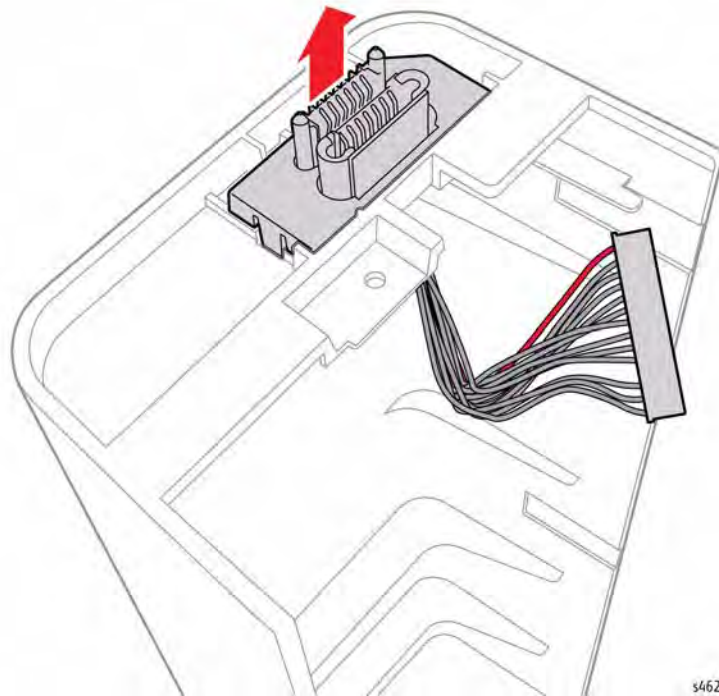

Figure 1 Remove the option connector
5. Release 2 hooks that secure the connector cover to the right cover and remove the connector, Figure 1.